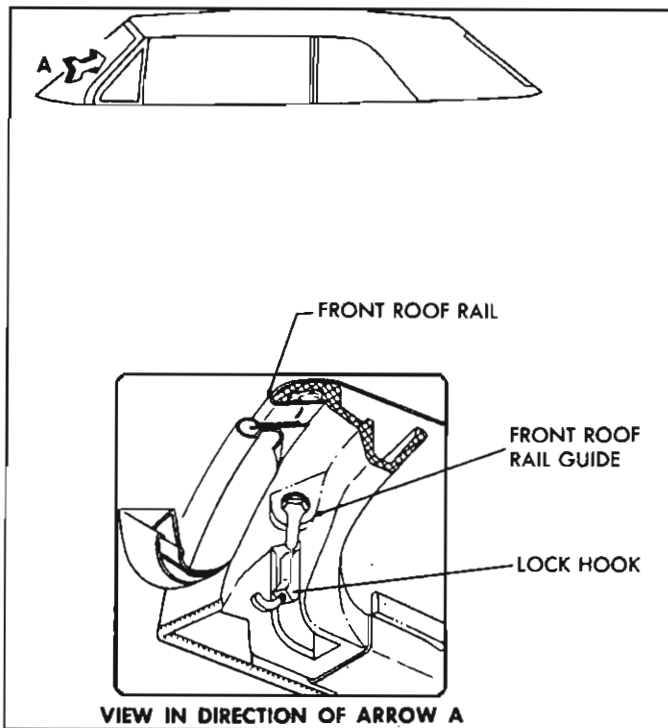

Fig. 35—Front Roof Rail Guide
2. Loosen guide sufficiently to permit adjustment (fig. 35). Shift guide to desired position and re-tighten.